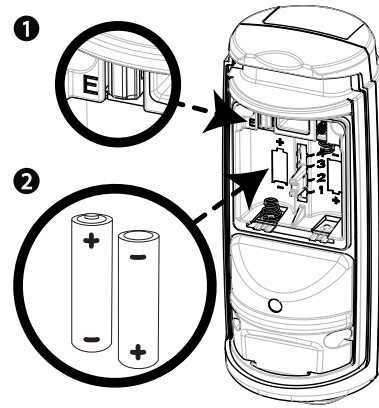

Figure 15: Enrollment button and battery polarity
3. Optional: To replace the batteries, remove the old batteries and insert the batteries with the (+) and (-) symbols matching the illustration found in the battery compartment. See Number 2 in Figure 15.